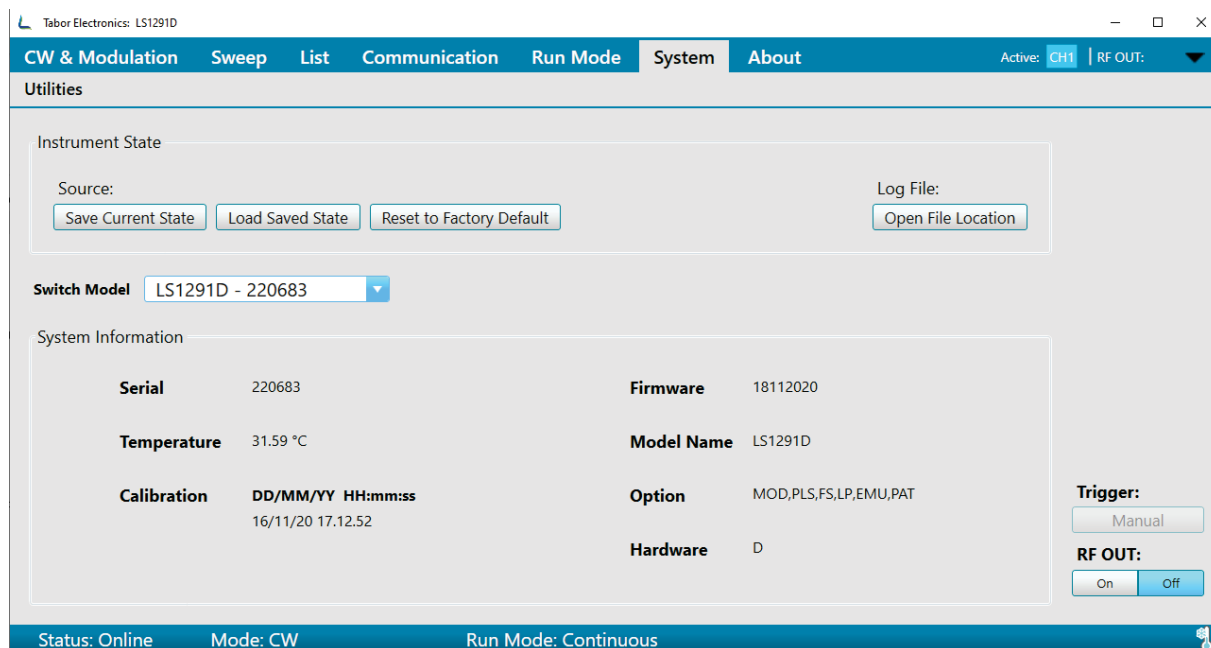

Figure 3.19 System Tab
- Verify the version of the FPGA firmware installed on the device is older than the version on the Tabor website. Refer to Figure 3.19 System Tab, page 36. The TE Update Tool does also display the FPGA FW version.